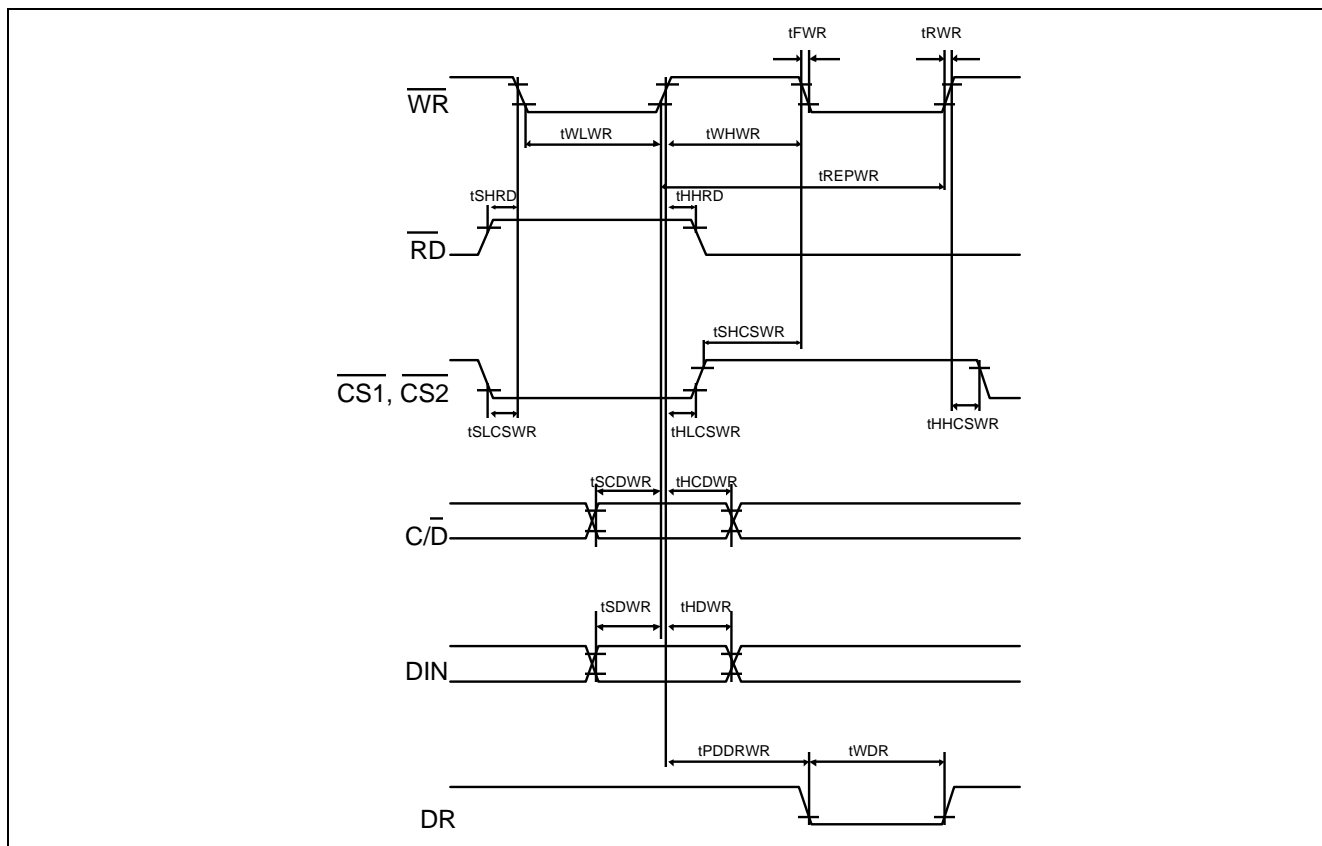

Figure 6 Write Timing
**Write Timing Characteristics (Figure 6):** Operation over recommended temperature and voltage range